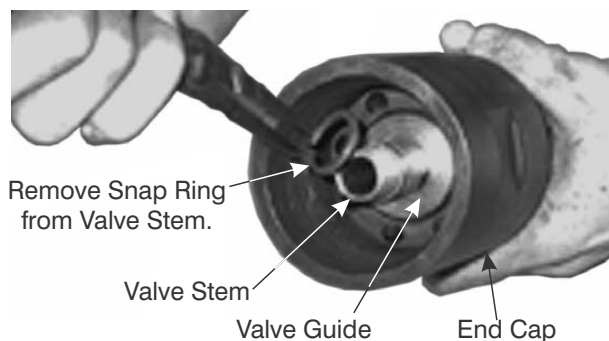

Figure 8-17. Remove Snap Ring from Valve Stem
3. Use needlenose or snap-ring pliers to expand the Snap Ring (3) and slide it from the Valve Stem (5). Refer to Figure 8-17.